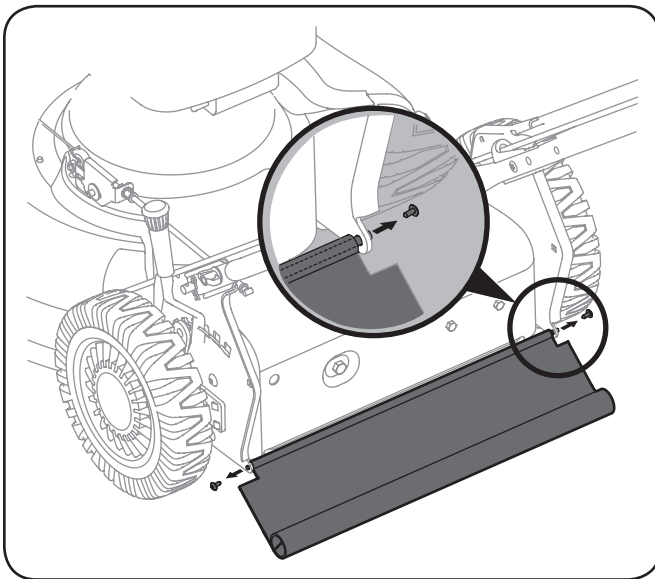

Figure 6-2
1. To remove rear flap, lift rear door, remove screw, and press flap in on either side to remove from hole. See Figure 6-2.